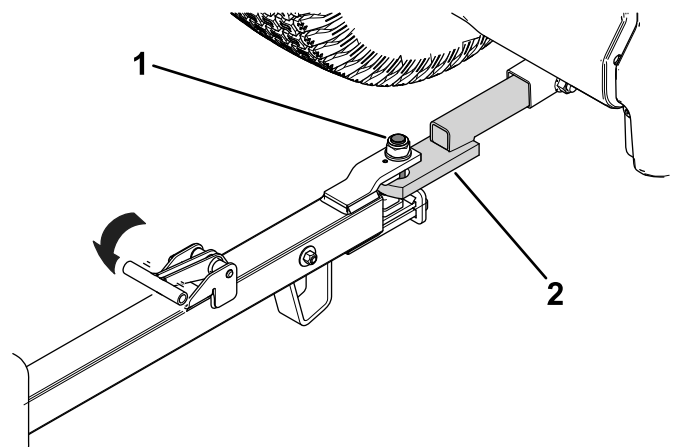

Figure 27
2. Align the tongue pin with the tow-vehicle hitch (Figure 27).
3. Release the tongue handle (Figure 27) to secure the trailer to the tow-vehicle hitch.